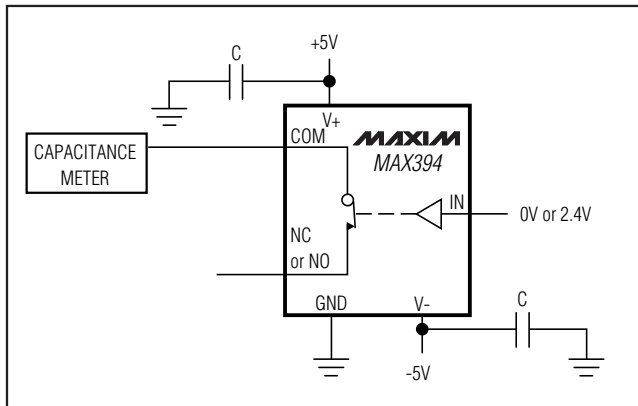

Figure 3. Channel Off-Capacitance
**Note 7:** Between any two switches. See Figure 3.